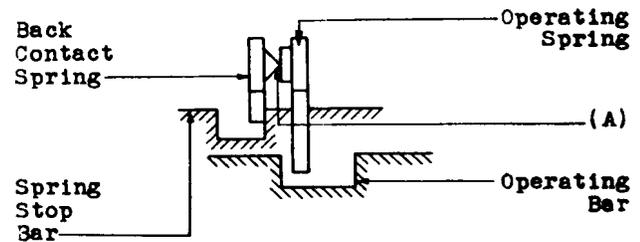

Fig. 7
2.07 Pressure of Operating Spring Against Back Contact Spring on Break and Transfer Spring Combinations - Figs. 7 (A) and 8 (A) - With the operating bar in the normal position, this pressure shall be: